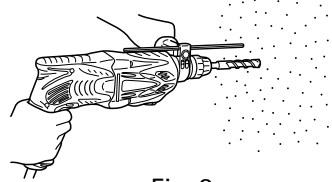

Fig. 8
- (1) Mount the drill bit.
- (2) Pull the trigger switch after applying the drill bit tip to the drilling position (Fig. 8)
- (3) Pushing the rotary hammer forcibly is not necessary at all. Pushing slightly so that drill dust comes out gradually is just sufficient.
- **When the drill bit touches an iron reinforcing rod, the bit will stop immediately and the rotary hammer will react to revolve. Therefore please grip the side handle and handle tightly as shown in Fig. 8.**